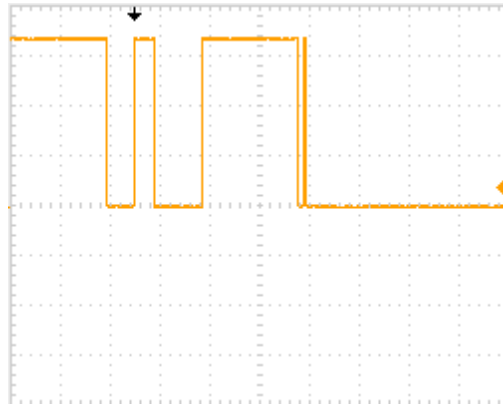
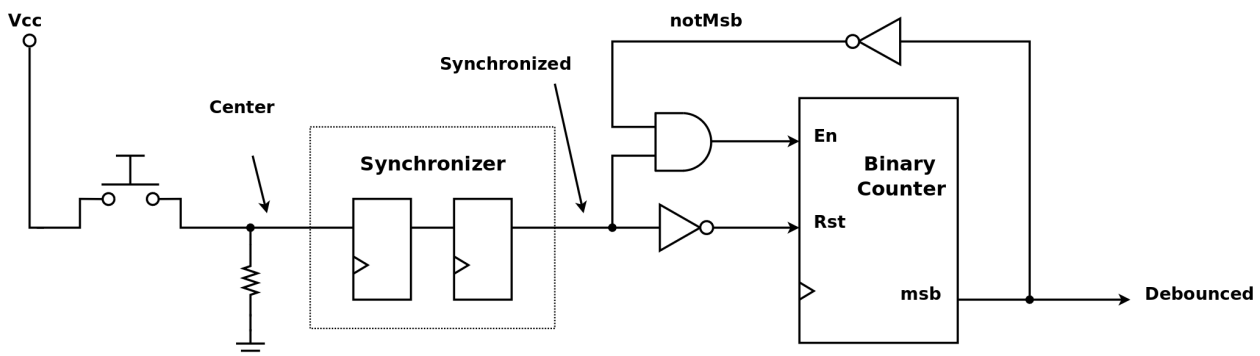
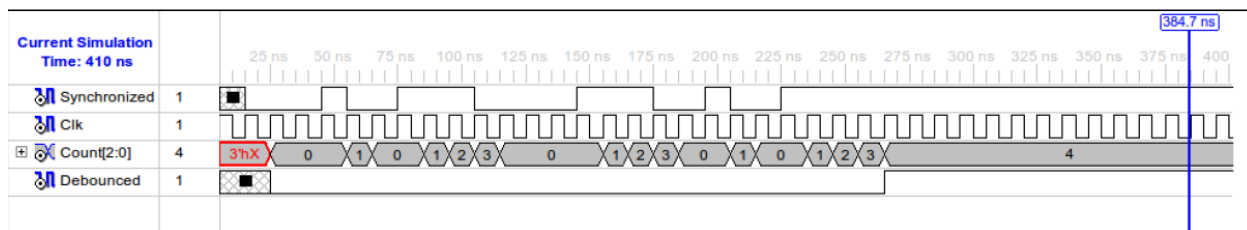

Figure 3: Electrical Chatter
Figure 4: Simple Debounce Circuit
Figure 5: Debounce Circuit Waveform
Up to this point, we have assumed that switches and push-buttons, used for receiving input from the user, are ideal in terms of the output signals that they produce. Unfortunately, this is not the case in the real world because these devices rely on less than ideal electromechanical contacts to generate electrical signals from mechanical events. Electrical chatter as seen in Figure 3 is generated every time a switch is flipped or a button is pressed. This chatter (a.k.a switch bounce) consists of several short duration pulses, which appear as a bouncing signal in the interval immediately after the electromechanical contacts are brought together.
The diagram in Figure 4 demonstrates how a counter can be used to debounce a signal from a push-button. For the moment, ignore the *synchronizer* portion and examine the right half of the debounce circuit. While the *Synchronized* signal is LOW, the counter is held in *reset* (i.e. $Count = 0$). Likewise, the most-significant-bit (msb) of the counter is LOW; therefore, *notMsb* is HIGH. When the *Synchronized* signal transitions to HIGH, the *reset* of the counter is released so the counter will begin counting. Figure 5 illustrates this behavior. Assuming the bit width of the counter is sufficiently sized, the msb of the counter will never become HIGH while the *Synchronized* signal bounces because the counter will continually be *reset*. Thus, the *Debounced* signal should remain LOW during this period. Once the *Synchronized* signal smooths out, the counter will *saturate*. In other words, the msb of the counter will become HIGH, which will in turn force *En* to go LOW, stopping the counter from counting. At this point, the *Debounced* signal will be HIGH until the *Synchronized* signal goes LOW again, in which case the process repeats.
The remaining components in Figure 4 should look familiar. For example, the pull-down resistor brings the output of the push-button circuit to a LOW state when the button is not pressed. This configuration is similar to that of the switches from earlier labs. For the experiments in lab, we will use the push-buttons on the ZYBO Z7-10 board and the XDC to specify the use of the pull-down resistor within the FPGA.
3. If the Seconds per Division setting for Figure 3 was set to 1 ms/div (ie. the time between axis markings is 1 millisecond), what do you think would be a good bit width for the counter in Figure 4, assuming a 50 MHz clock signal was driving the counter? Explain your answer.